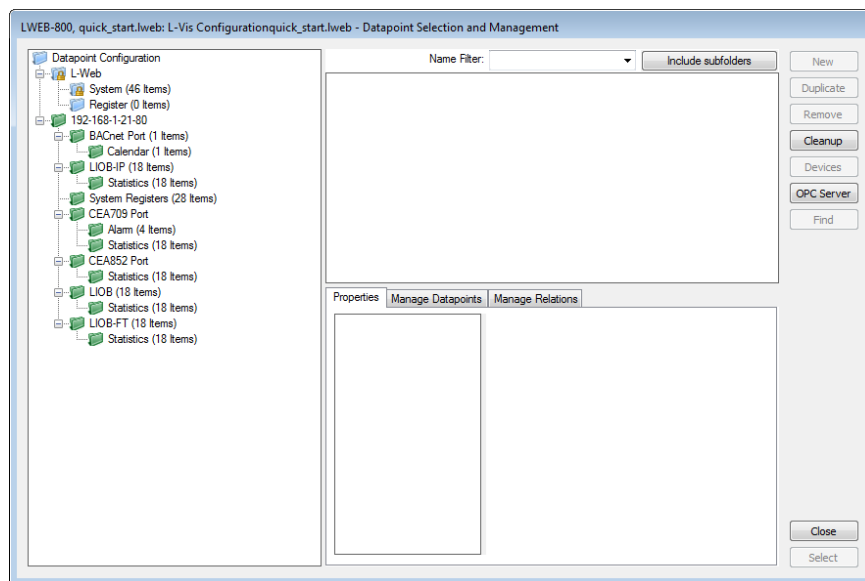

Figure 67: Data Point Dialog
- 1) In the L-VIS Configurator open the data point dialog as shown in Figure 67 and press on the **OPC Server** button.